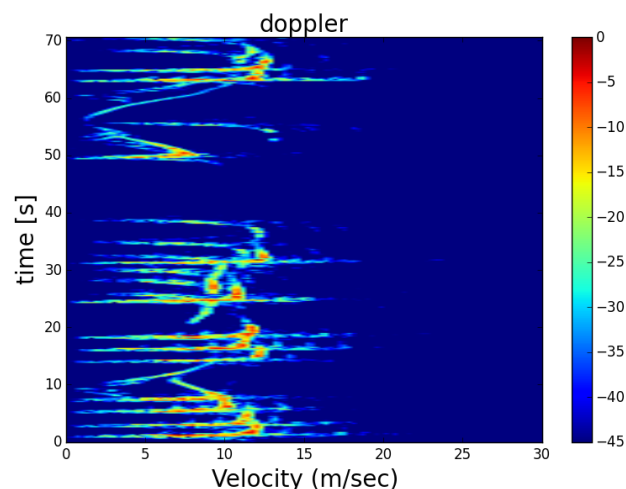

Figure 9: Velocity-time plot for data in “highway_doppler.wav”.
4. A Python script “doppler.wav.m” is available at this link to analyze the data. An example .wav file named “highway_doppler.wav” can be analyzed for you to get an idea of the expected outcome. Fig. 9 shows the velocity-time plot of the data in “highway_doppler.wav”. Fig. 9 shows the velocity-time plot for the data in “highway_doppler.wav”. Each streak corresponds to a car passing by the radar which is mounted alongside a highway. As the car passes by the radar, its relative speed to the direction of the radar antenna’s main beam is very small but increases quickly as the car moves away from the radar.